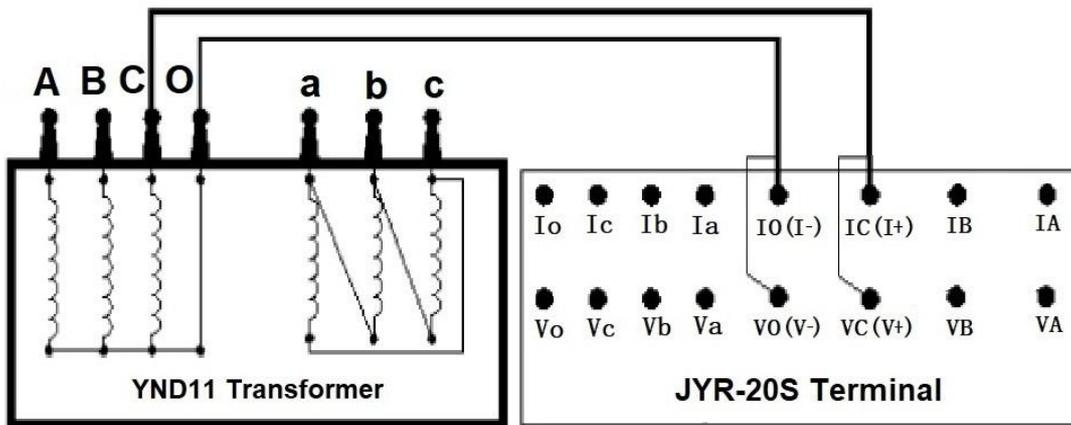

Figure 4
**Single-channel direct measurement wiring:** (YND11 transformer CO phase measurement) see Figure 4.